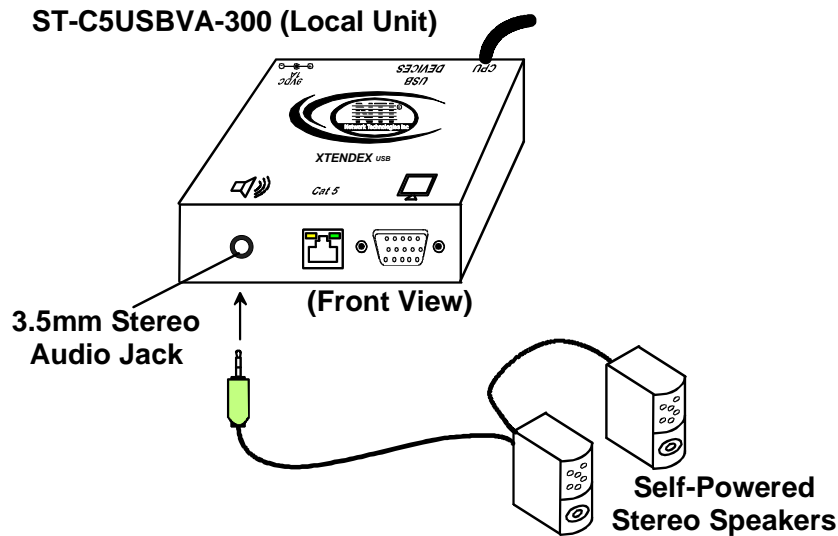

Figure 4- Connect stereo speakers to XTENDEX Local Unit with audio support
3. If the Local Unit has audio support (ST-C5USBVA-300), connect the cable from the local self-powered stereo speakers to the 3.5mm stereo audio jack on the Local Unit. (See Fig. 4)